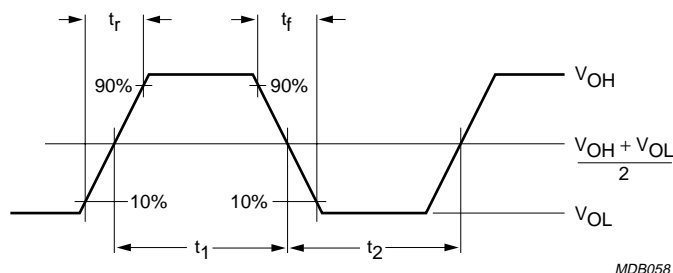

Fig.10 Definition of output and input transition times.
4. Transition time and duty factor definitions are shown in Fig.10; $\delta = \frac{t_1}{t_1 + t_2}$